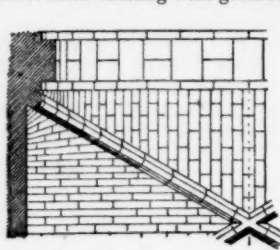

Fig. 67.
b. Groin-ribs and transverse arches. (Figs. 67 and 68. From a church at Gerland, in France.) Both ribs and arches are in this case semicircular.